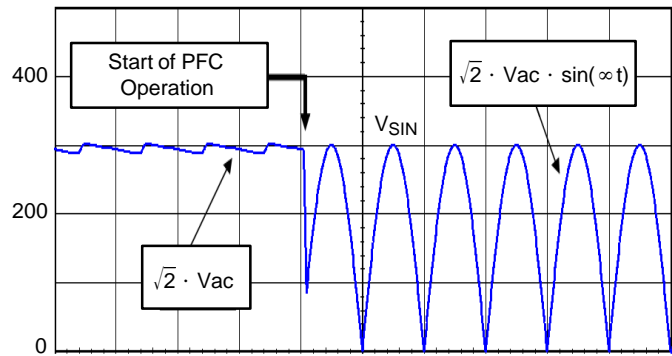

Figure 69. Typical Input Voltage of a PFC Stage
i.e., about 64% of the previous value. Therefore, the same line magnitude leads to a V_{Pin2} voltage that is 36% lower when the PFC is working than when it is off (refer to Figure 69). That is why the NCP1605 features a 50% hysteresis ($V_{BOH} = 50\% V_{BOH}$).